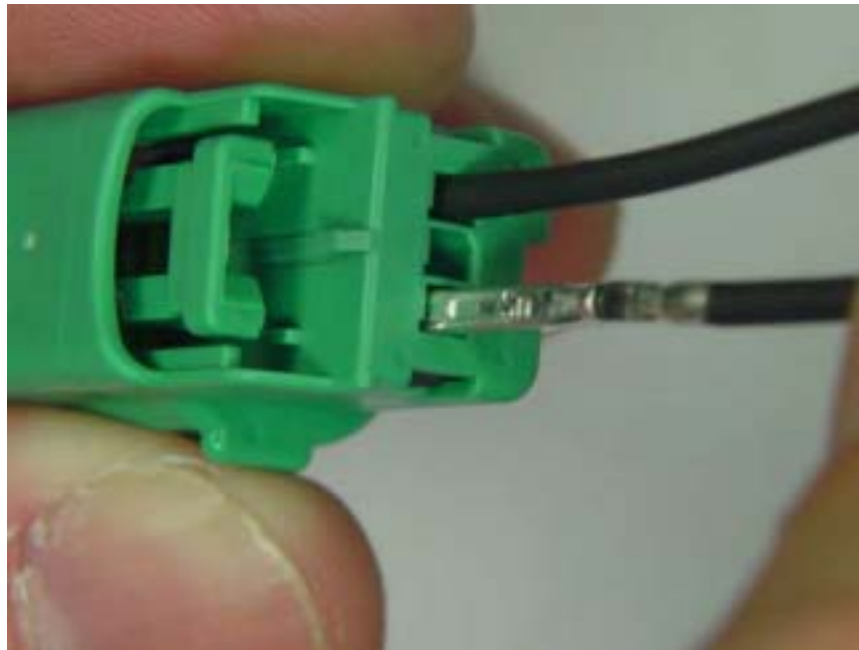

Fig. 5-12
- n Once the terminal lock finger is disengaged, pull on the wire (Fig. 5-12) to release the terminal.